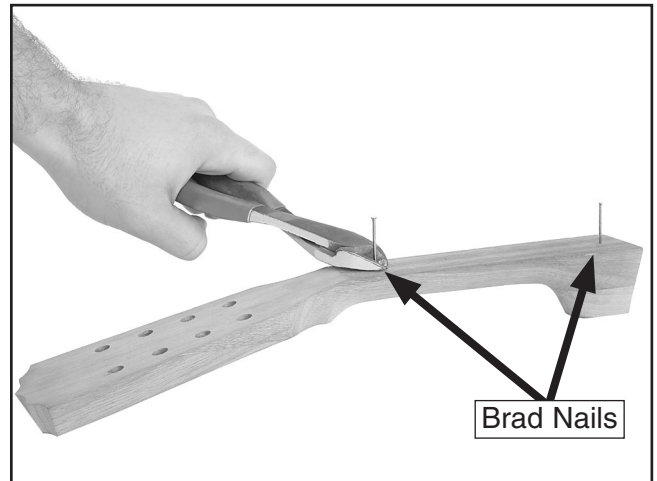

Figure 15. Trimming brad nails.
3. Nail the brads into the positioning holes and use wire cutters to cut the heads off no more than an $\frac{1}{8}$ " above the surface of the neck as shown in **Figure 15**.